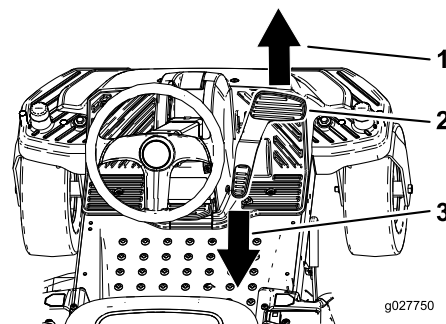

Figure 19
3. Place your foot onto the traction-control pedal and slowly press the top of the pedal to go forward, or press on the bottom of the pedal to move backward (Figure 19).